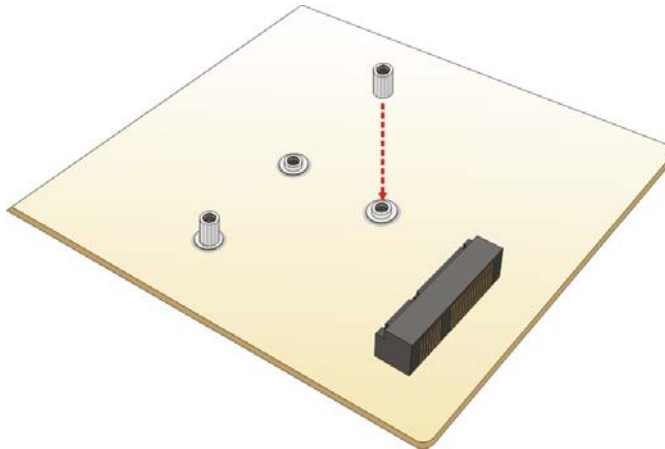

Figure 4-15: Installing the Standoff
Step 3: Install the standoff to the screw hole for the half-size PCIe Mini card. Install the previously removed standoff to the screw hole for the half-size PCIe Mini card (Figure 4-15).